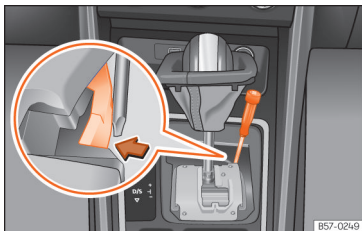

Fig. 217 Gear selector lever: manual release from the parking position.
- Using the flat part of a screwdriver, press the yellow tab sideways and keep it pressed down » » Fig. 217.